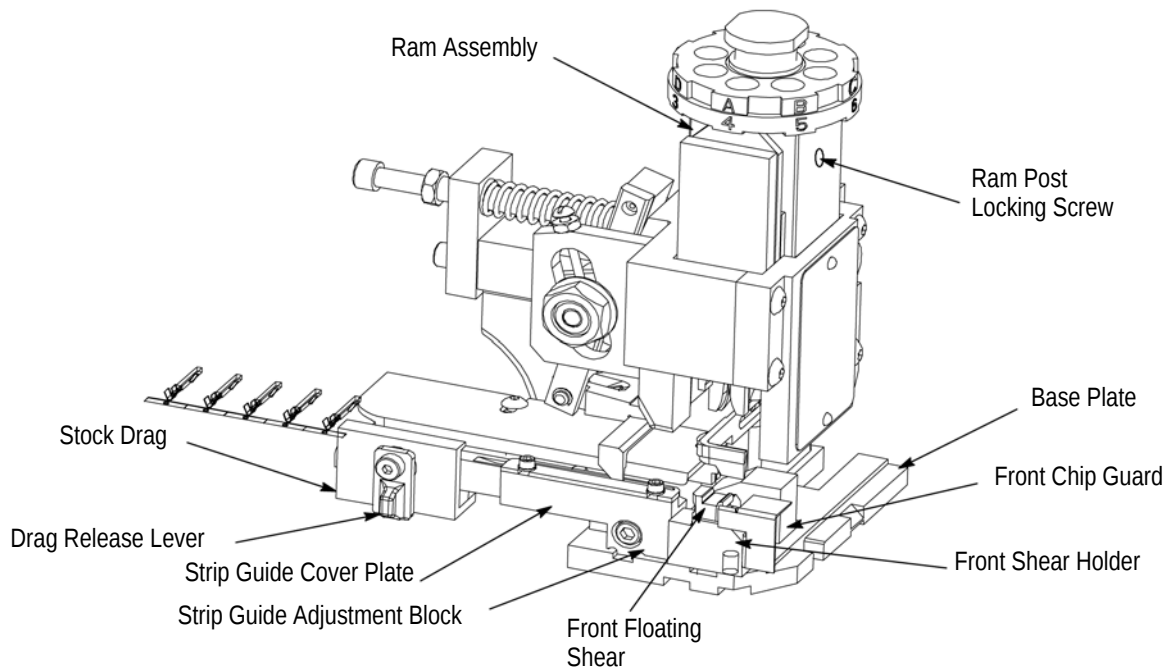
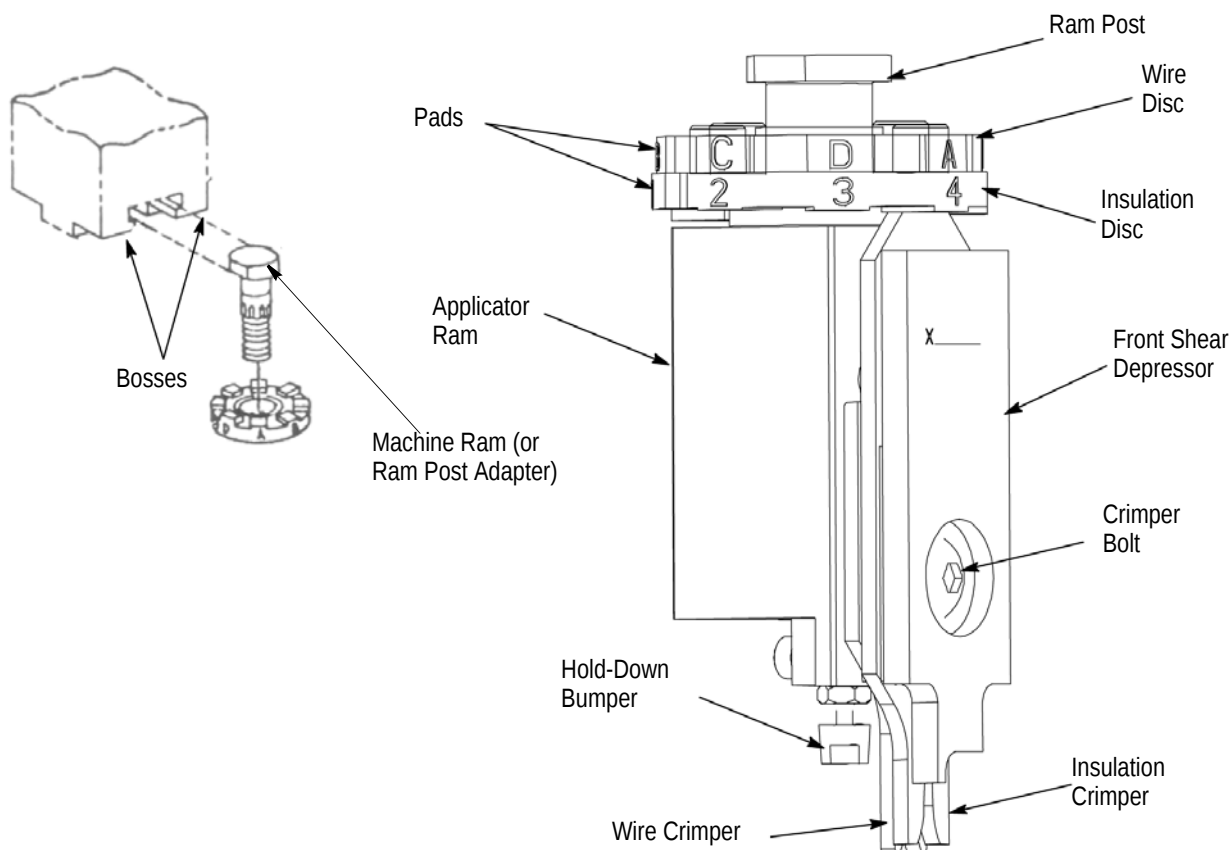

Figure 1
Figure 3
Heavy Duty Miniature Quick-Change Applicator (side-feed type) with mechanical- and air-feed systems apply side-feed strip terminals to pre-stripped wires. Refer to Figure 1. Each applicator accepts the strip form of certain terminals, which are identified on the applicator parts list and exploded view drawing (Applicator Log) for each applicator. The terminal listed on the data plate is the one that was specified when the applicator was ordered. Some terminals have two carrier strips, others just one.
The main components of the applicators with mechanical feed are identified in Figures 1 and 2. The ram assembly is shown in detail in Figure 3.
Just below the ram post are the wire disc and the insulation disc. The wire disc has as many as four pairs of pads, depending on the number of different wire sizes the terminals will accept. Each pair of pads has a different height. By rotating the disc, each pair of pads can be lined up with the two bosses on the ram post adapter (see Figure 3) to change the length of stroke of the wire crimper over the anvil. The insulation disc contains eight pads of different heights. When this disc is turned, the pads line up with the top of the insulation crimper to change the insulation crimp height.
2. Turn wire disc (upper disc) to line up selected pad letter with **BOSSSES ON MACHINE RAM** (or **RAM POST ADAPTER**). See Figure 3. This provides the right crimp height for that wire size.